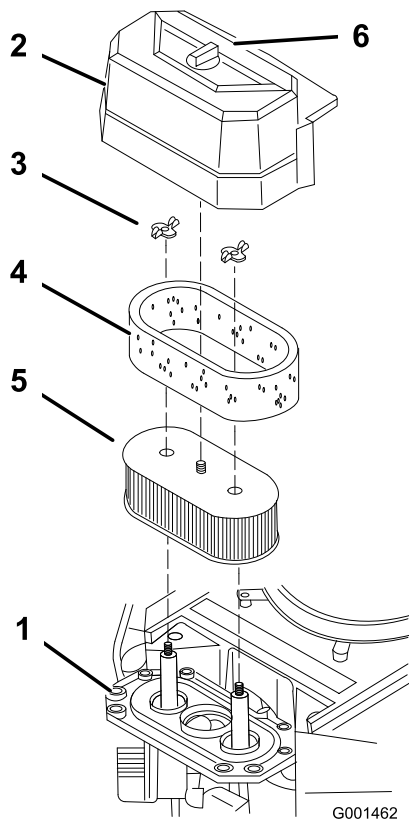

Figure 41
3. Clean around the air cleaner to prevent dirt from getting into the engine and causing damage (Figure 41).
4. Unscrew the cover knob and remove the air cleaner cover (Figure 41).
5. Remove the wing nuts and remove the air cleaner assembly (Figure 41).
6. Carefully pull the foam element off the paper element (Figure 41).
1. Do not clean the paper filter, replace it (Figure 41).
1. Carefully slide the foam element onto the paper air cleaner element (Figure 41).
- Place the air cleaner assembly onto the air cleaner base or hose and secure it (Figure 41).
- Place the air cleaner cover into position and tighten the cover knob (Figure 41).